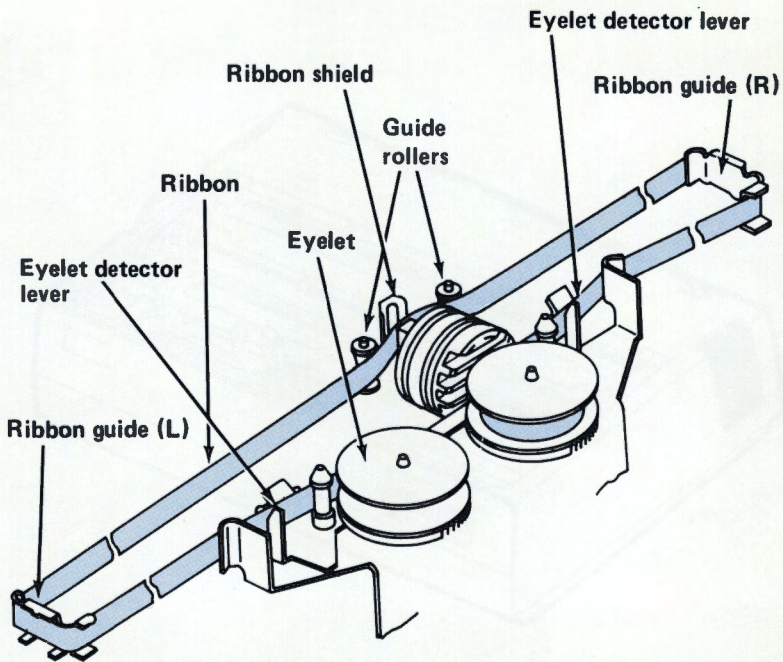

Figure 1-7
5. Thread the loose ribbon end as shown in Figure 1-7. Read these hints before you start threading the ribbon.